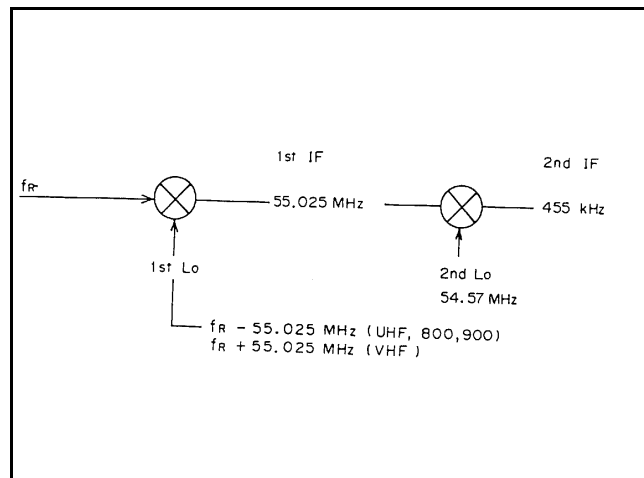
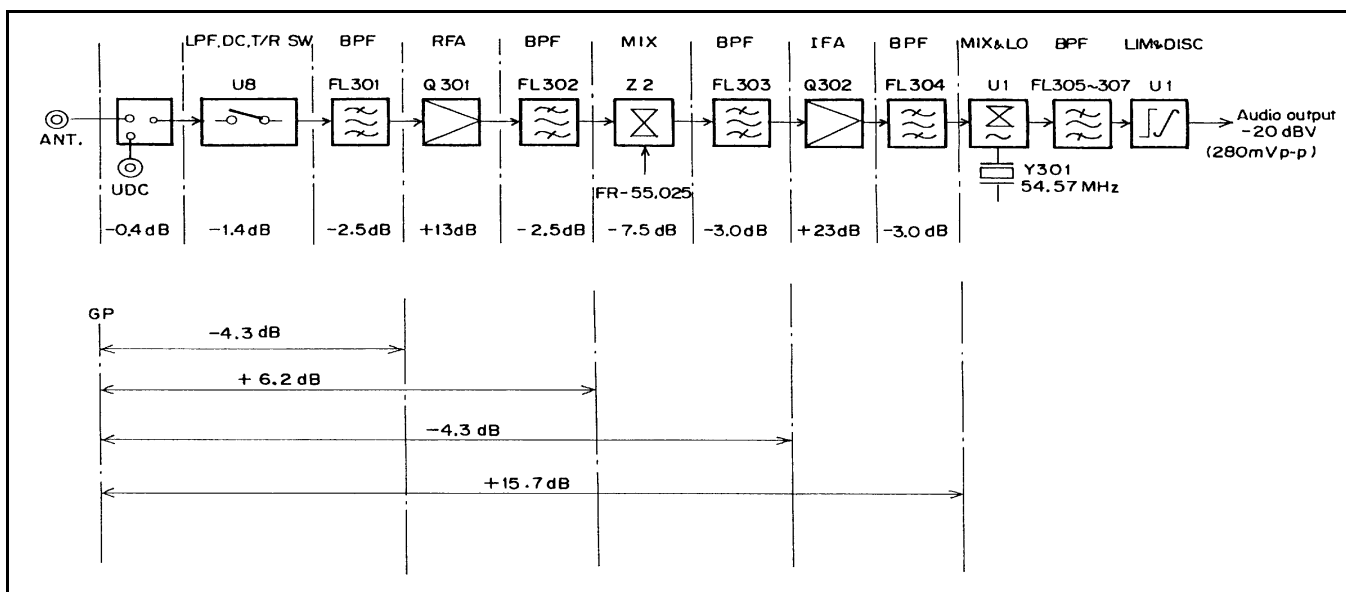

Figure 7 - Frequency Relationship Diagram
Figure 8 - Typical Level Diagram
- a. Level Diagram : A Frequency Relationship Diagram is shown in Figure 7 and a Typical Level Diagram is shown in Figure 8.
- (1) C318 is provided for the adjustment of the second local oscillator.
- (2) When the desired channel frequency with standard modulation is applied to the antenna terminal, adjust C323 for maximum output at RX Audio.
- a. Check the Local Oscillator Frequency. Check the frequency after connecting a frequency counter through a 1 PF capacitor to the collector of Q103. The frequency relation at various stages is shown In Figure 8. If a frequency error is 1.5 PPM or more In the temperature range of 20 to 25C, adjust the frequency of VCTCXO (Z1). The frequency of VCTCXO is 13.2 MHz.